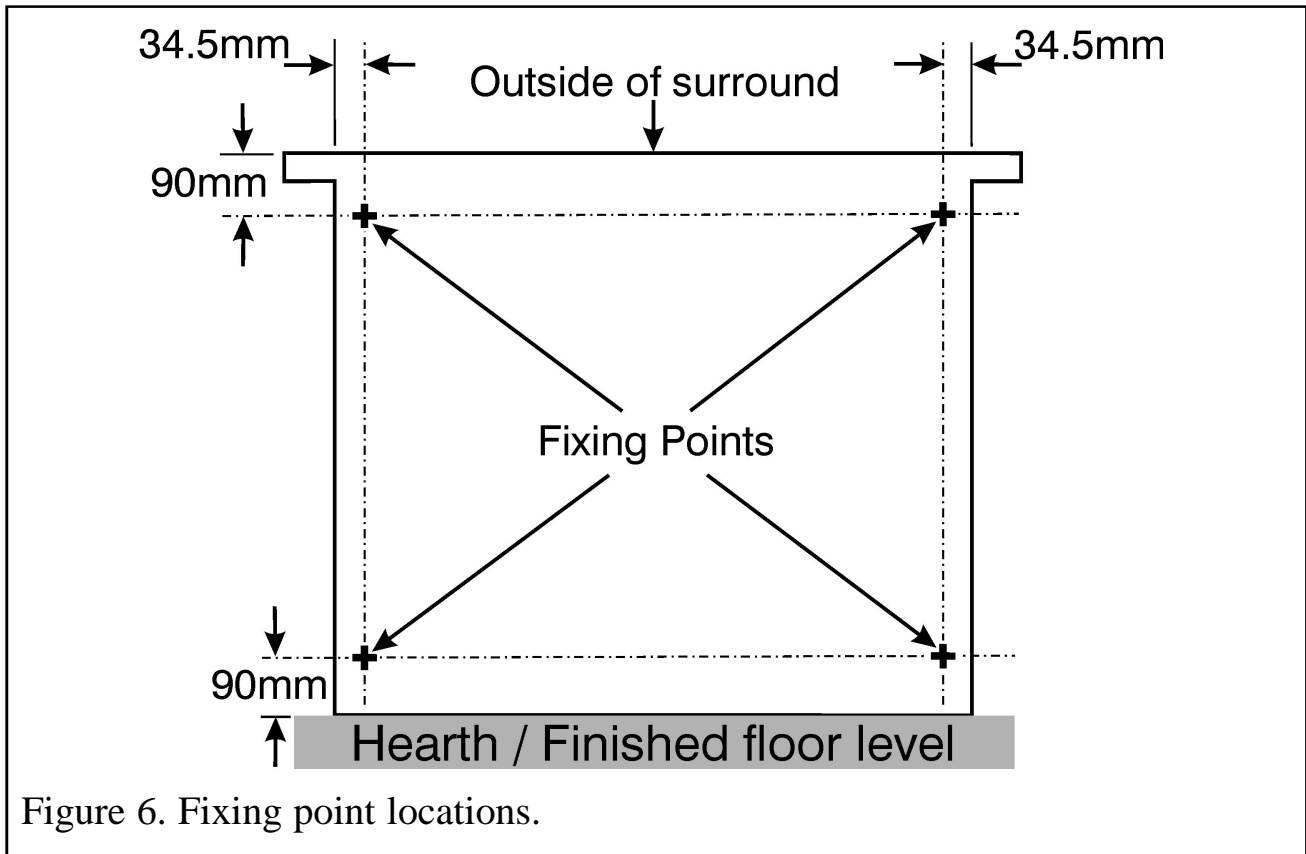

Figure 6. Fixing point locations.
- There are four wall fixing points shown in figure 6. Mark the positions of the fixing points on the wall. Drill suitable sized holes at the fixing points for the wall plugs supplied. Insert four wall plugs (H). Insert four screws (J) leaving approximately 3mm between the wall surface and the rear of the screw head. Lift and position the surround / mantle into position. The screws can be adjusted to obtain the best fit. This will require removal of the surround / mantle.